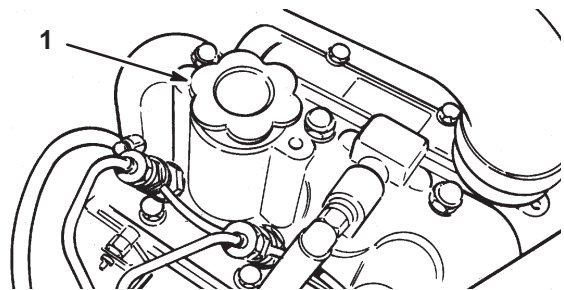

Figure 21
3. If the oil level is low, remove the oil fill cap (Fig. 21) and gradually add small quantities of oil, checking the level frequently, until the level reaches the FULL mark on the dipstick.